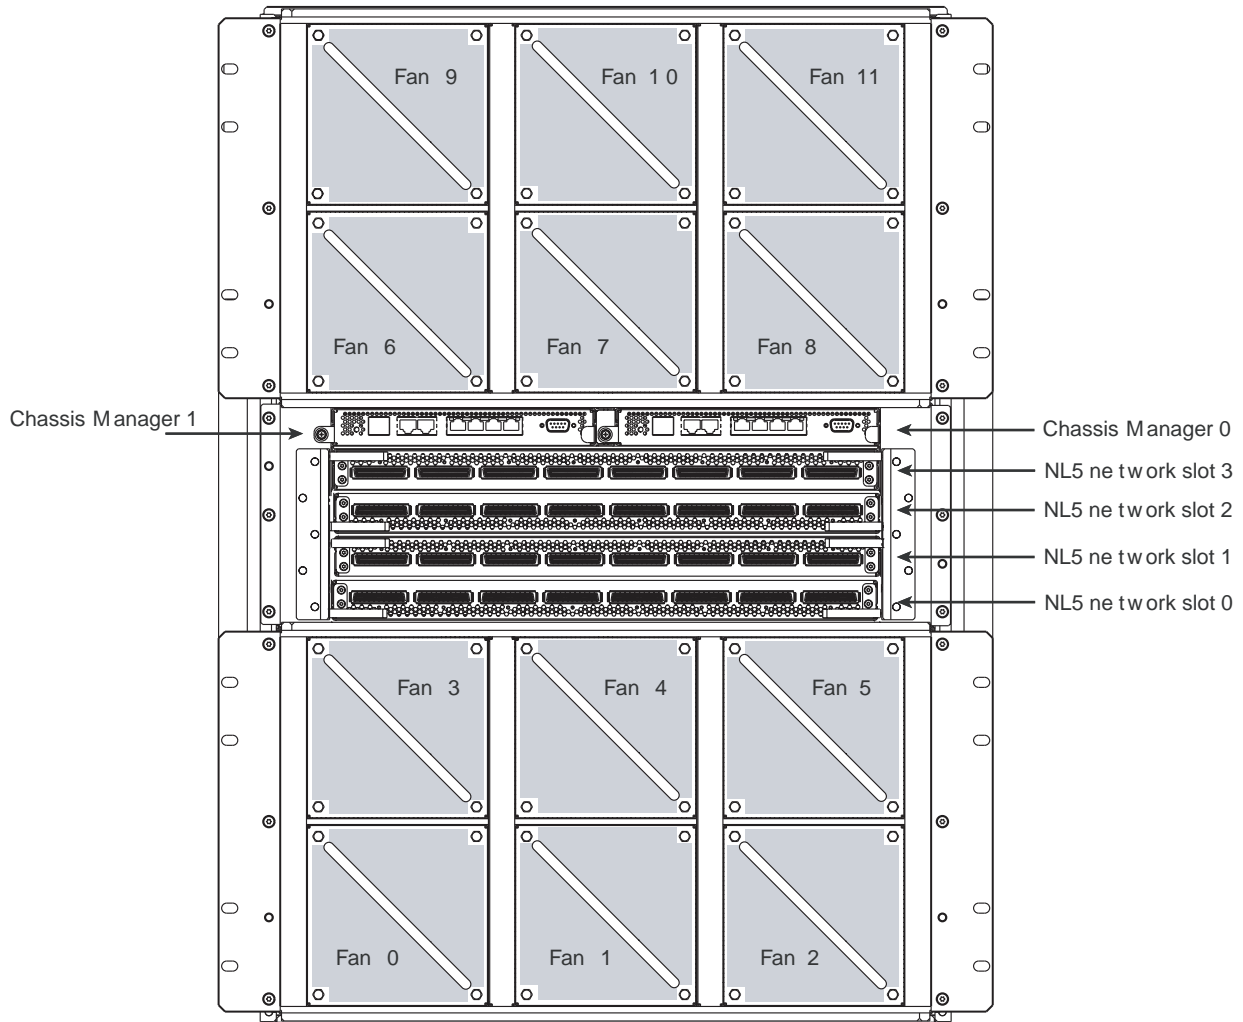
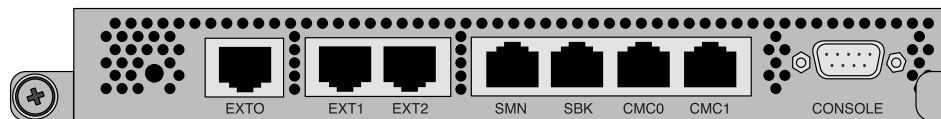

Figure 1-4 Chassis Manager Controller
Figure 1-5 CMC Ethernet Ports
The chassis manager controller (CMC) in the rear of the IRU, as shown in Figure 1-4, and Figure 1-5, supports powering up and down of the compute blades and environmental monitoring of all units within the IRU. The CMC sends operational requests to the baseboard manager controller (BMC) on each compute node. The CMC provides data collected from the compute nodes within the IRU to the system management node upon request. The CMC blade on the right side of the IRU is the primary CMC and the CMC blade on the left is an optional CMC for redundancy.
Chassis manager controller (CMC) has seven RJ45 Ethernet ports as shown in Figure 1-5.
Establish a Network/Ethernet connection (see SBK port, EXT port, and SMN port in Figure 1-5)
2. Establish a serial connection to the **CONSOLE** on the CMC (see Figure 1-5 on page 9). See “Connecting to the UV System Controller Network” on page 13 or skip to the next step.
Typically, the default password set out of the factory is `root`. The CMC prompt appears. `CMC:r1i1c` refers to rack 1, IRU 1, CMC (see Figure 1-4 on page 8 and Figure 1-5 on page 9)